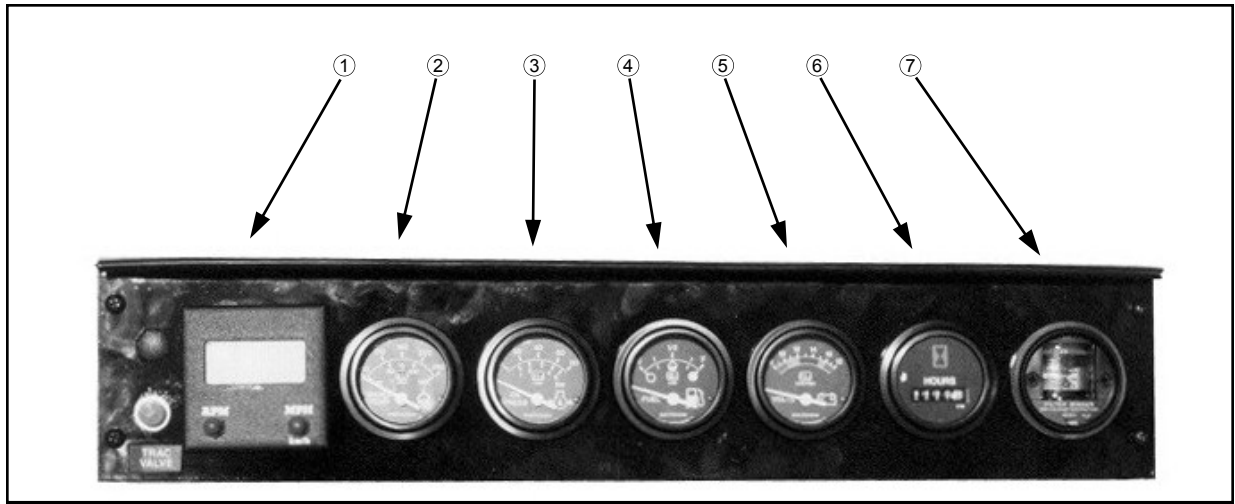

FIG 5.44
**Speedometer/Tachometer** - (fig. 5.44, item 1) Unit will display either engine RPM or speed of travel depending on operator's selection. See pages 66-67 for more information on the speedometer/tachometer.
**Water Temperature** - (fig. 5.44, item 2) The water temperature gauge monitors the engine cooling system. A "RED" indicator light alerts the operator of unsafe operating temperatures.
**Engine Oil Pressure** - (fig. 5.44, item 3) The oil pressure gauge monitors pressure of the engine lubricating system. A "RED" indicator light alerts the operator of low level operation.
**Fuel Gauge** - (fig. 5.44, item 4) The fuel gauge measures the amount of fuel in either fuel tank, depending on the tank selected with the fuel switch. A "YELLOW" indicator light alerts operator of low level operation.
**Volt Meter** - (fig. 5.44, item 5) The volt meter measures voltage from the alternator on the diesel engine. A "RED" indicator light will alert the operator if the system is operating either too low or too high.
**Hour Meter** - (fig. 5.44, item 6) The hour meter progressively records elapsed time of detasseler operation. It is useful for determining service intervals.
**Filter Minder (diesel only)** - (fig. 5.44, item 7) See page 88 for information regarding the air filter monitoring system.